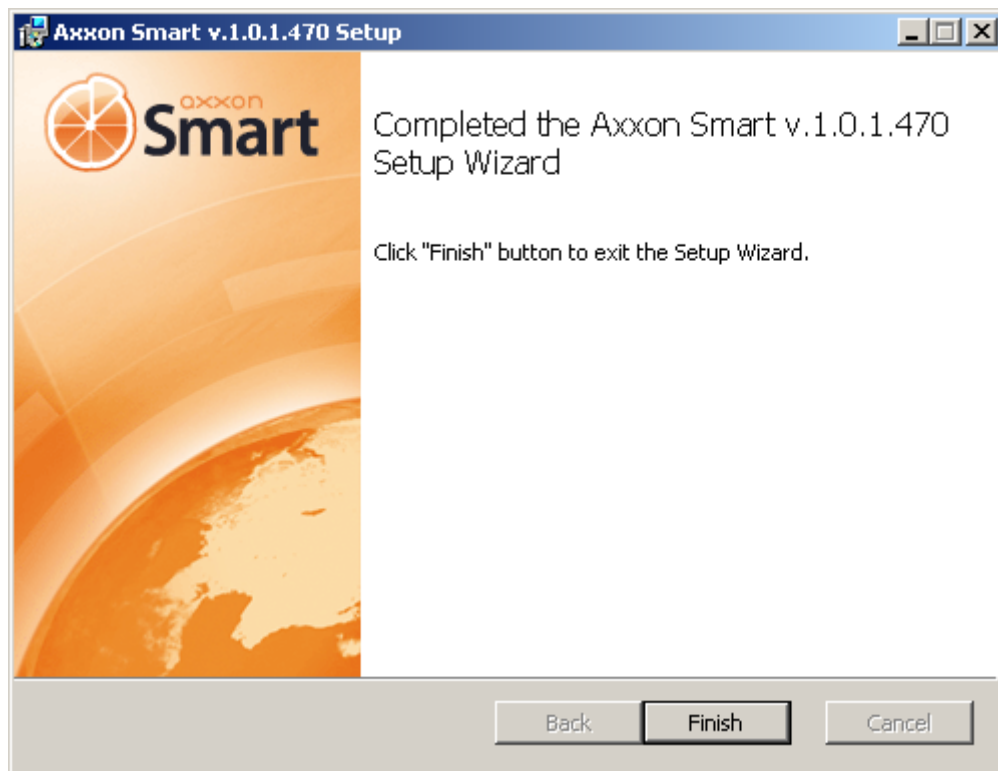

Figure 1.2.3-14
**Step 12.** After all files are copied, the installation wizard will inform you that the Axxon Smart installation is complete. To confirm, click Finish (Figure 1.2.3-14).